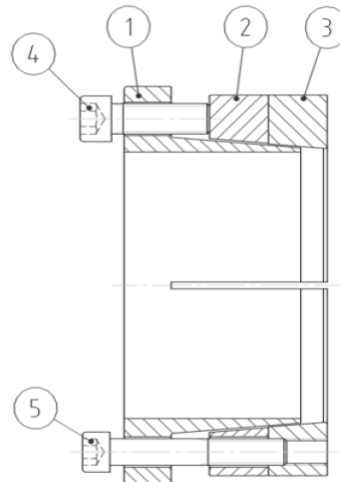

Fig. 4
4. Loosen all screws item [5] and release collar item [3] by re-tightening all push-off screws (see fig. 4) in a crosswise pattern, not exceeding $\frac{1}{4}$ turns for several passes.